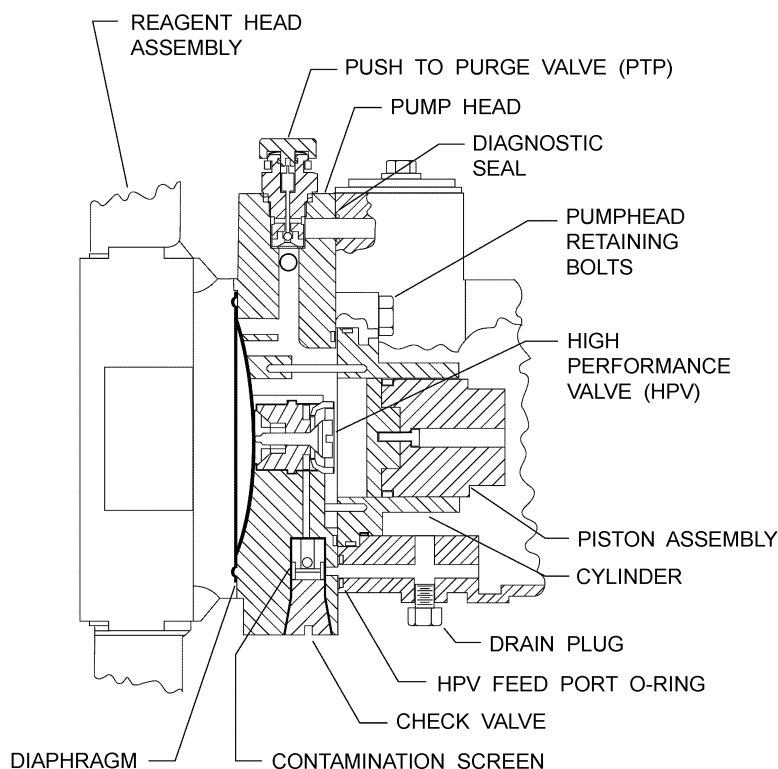

Figure 15
PULSAR pumps utilize two styles of High-Performance Valves (refer to **Figure 17**) dependent on the pump head size. Although different in appearance they function identically. The valves are factory preset and require no maintenance provided the hydraulic oil remains clean. The check valve in series with the HPV includes a screen to trap contaminants (refer to **Figure 15**) and should be removed and cleaned with each change of the hydraulic oil as indicated below. A clogged filter screen will impede the operation of the HPV and can lead to diaphragm damage. Should the HPV require removal for cleaning or replacement, follow the procedure appropriate to the valve style. If a diaphragm has failed, and chemical has contaminated the pump head assembly, both the HPV and the HPV check should be removed and thoroughly cleaned.
**Use the following procedure to remove and clean the Check Valve screen (refer to *Figure 15*) It is easiest to perform this process during an oil change:**